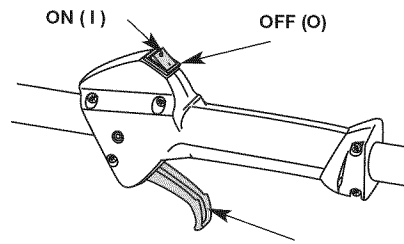

Fig. 10
NOTE: There is no need to turn the unit on. The On/Off Control is in the ON (I) position at all times (Fig. 10).
2. Press and hold the On/Off Control in the OFF (O) position until the unit comes to a complete stop. (Fig. 10)